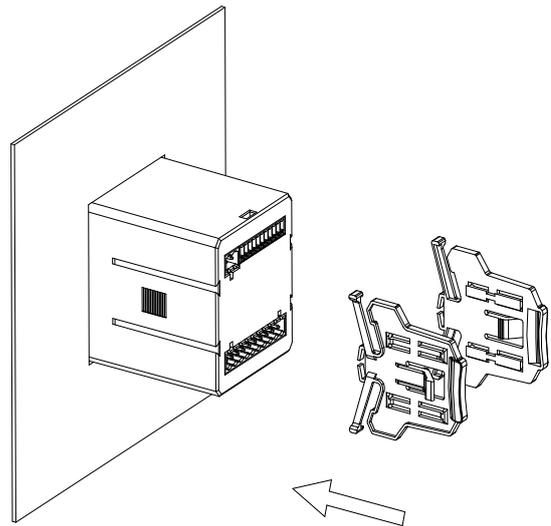

Figure 8
- 4) Insert the instrument clasp to secure the instrument, as shown in figure 8